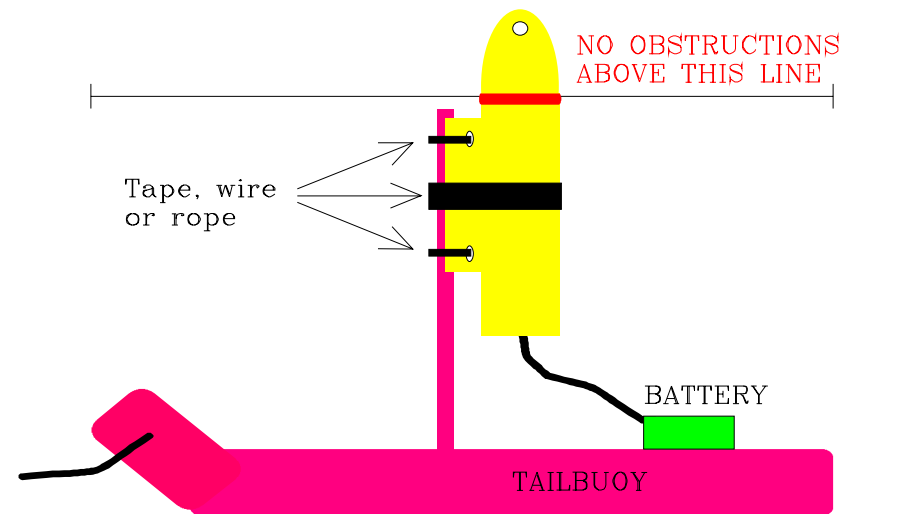

Figure 6 TBU installation
6. After configuration, disconnect power and the HHT. Mount the TBU in a mast or a suitable location where the satellite signals will not be obstructed, see Figure 6.